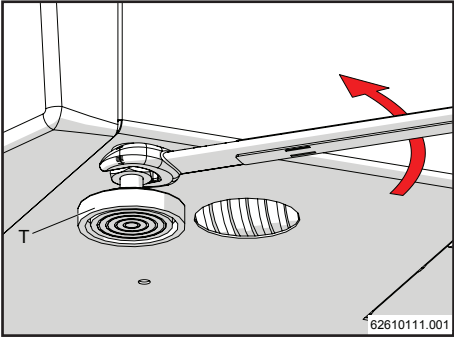
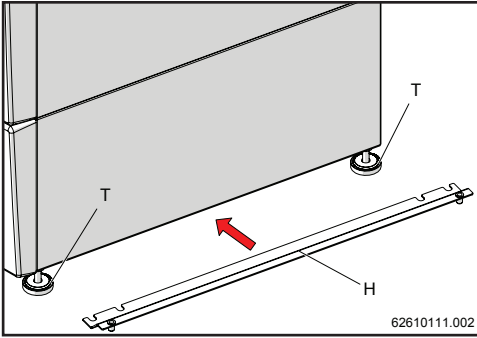

Figure 15-1
Figure 15-2
- 1.- Loosen, with the relevant spanner, the boiler's adjustable feet "T" (figure 15-1), insert rod "H" and retighten the adjustable feet "T" (figures 15-2 and 15-3). Repeat the same procedure on the opposite side.